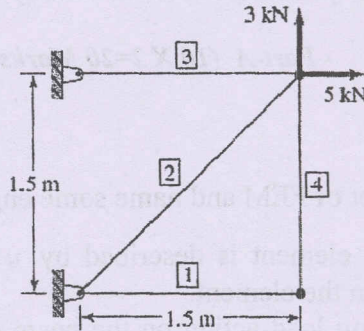

Fig. 2
12. The plane truss shown in Fig. 2. is composed of members having a square 15mm × 15mm cross section and modulus of elasticity  $E = 70 \text{ GPa}$ . Compute the nodal displacements in the global coordinate system for the loads shown. Also, compute the axial stress in each element. **Consider elements 2 and 3 only and 1 and 4 are for dimensional reference.** (10)